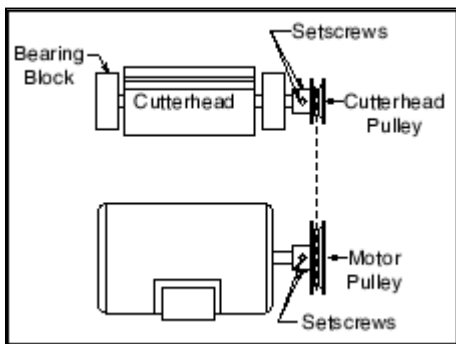

Figure 2. Pulley and v-belt aligned
2. Align the motor and cutterhead pulleys with each other using a plumb bob or straightedge. Move the motor until the face of the motor pulley is aligned with the cutterhead pulley and tighten the motor adjusting bolts. (see figure 2)